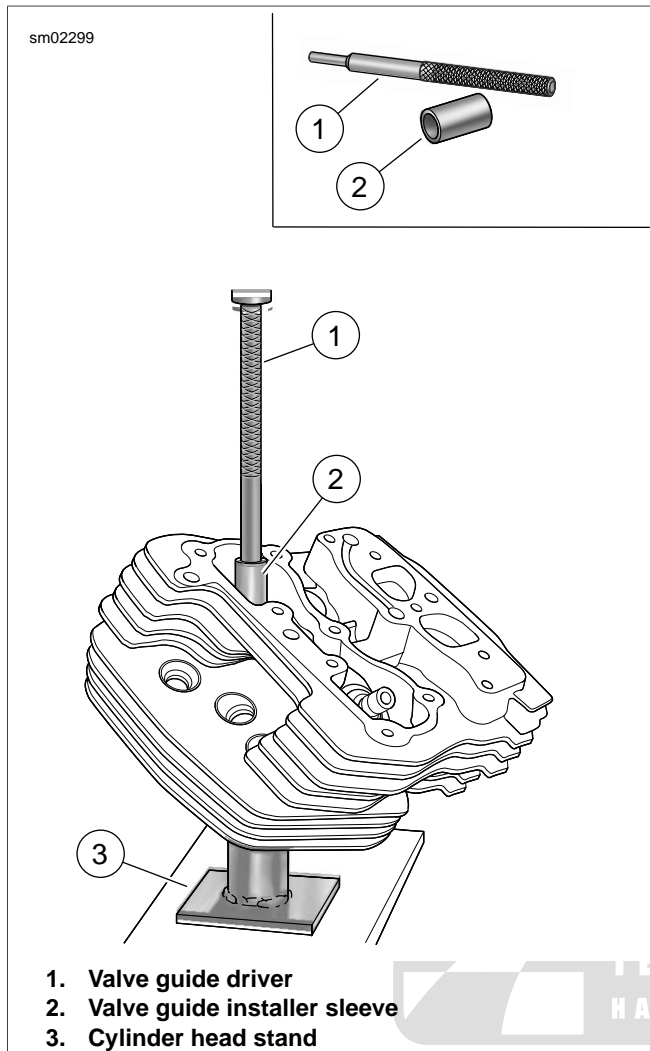

Figure 3-85. Install Valve Guide
- d. See Figure 3-85. Place VALVE GUIDE INSTALLER SLEEVE (Part No. B-45524-2A) (2) over valve guide and then insert tapered end of valve guide driver (1) into sleeve.